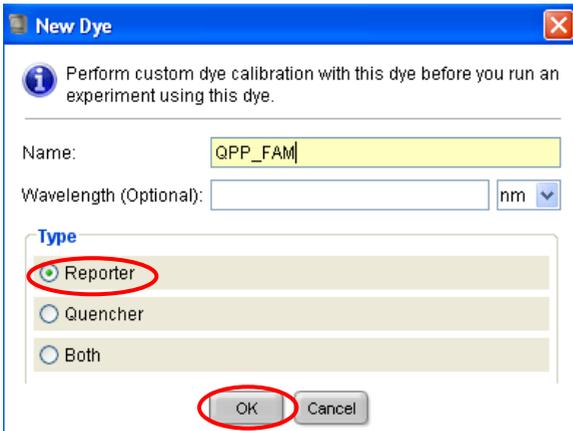

Figure 18. Dye naming.
6. Set names for the new custom dyes. To differentiate the new dyes from standard dyes, we recommend using the prefix QPP (for Quantiplex Pro). Enter **QPP_FAM** as a new dye name, select **Reporter**, and click **OK** (Figure 18).